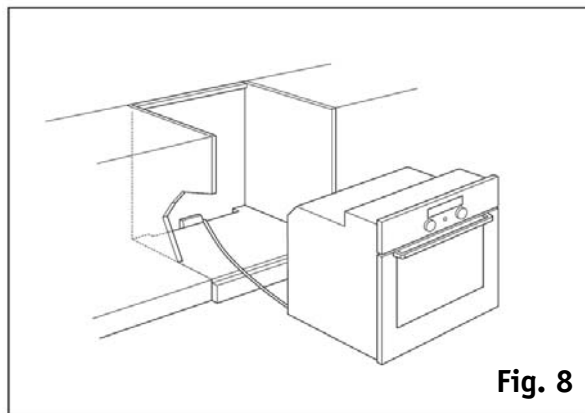

Fig. 8
- Lift the oven getting hold of it by the openings on the sides and insert it into the housing unit, being careful not to trap the power supply cable (fig. 8).